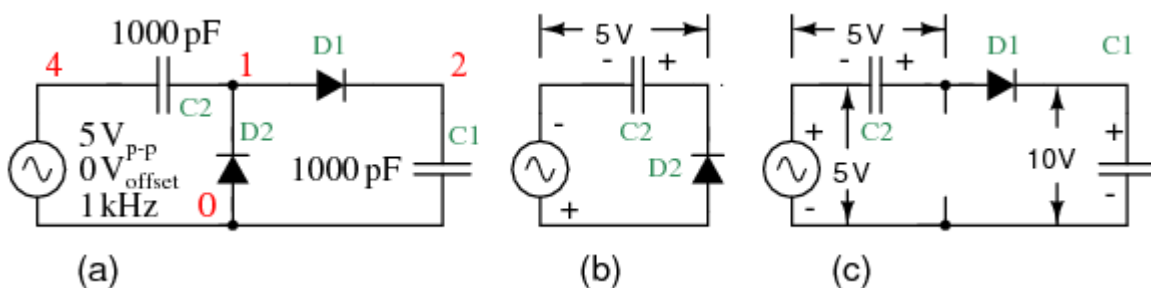

Figure 11.1
The Voltage Doubler circuit shown in Fig. 11.1 (a) consists of only two diodes, two capacitors and an ac input voltage. This simple gives a DC output voltage equal to the peak-to-peak value of the input. In other words, double the peak voltage value.
The half-wave voltage doubler in Figure 11.1 (a) shown below is composed of two circuits: a clamper at (b) and a peak detector (half-wave rectifier), shown in modified form in Figure 11.1 (c). C2 has been added to a peak detector (half-wave rectifier).
- 2- Make the circuit shown in fig 11.1 on bread-board.